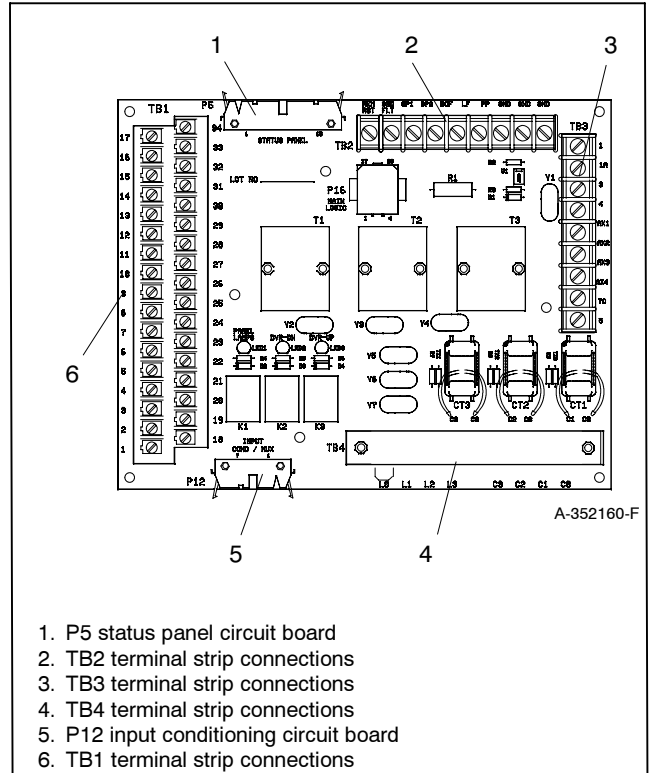

Figure 4-7 Interconnection Circuit Board A-352160
- b. Interconnection circuit board A-352160. See Figure 4-7.